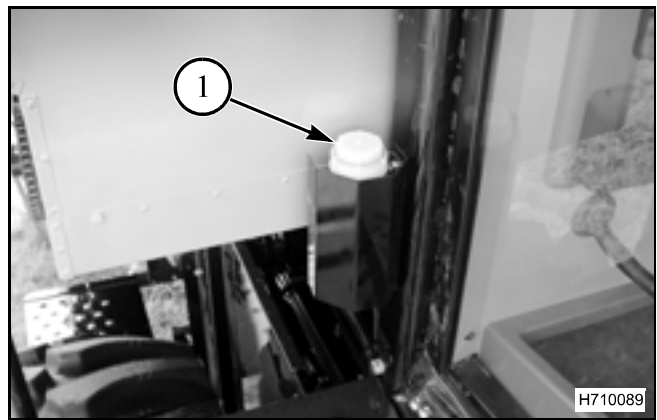

FIG. 10
FIG. 10: It is recommended that the brake system reservoir (1) (at the outside right rear of the cab) be checked periodically. If necessary, add the brake fluid. The fluid level should be maintained at 6 to 12 mm (1/4 to 1/2 in) from the top of the reservoir.